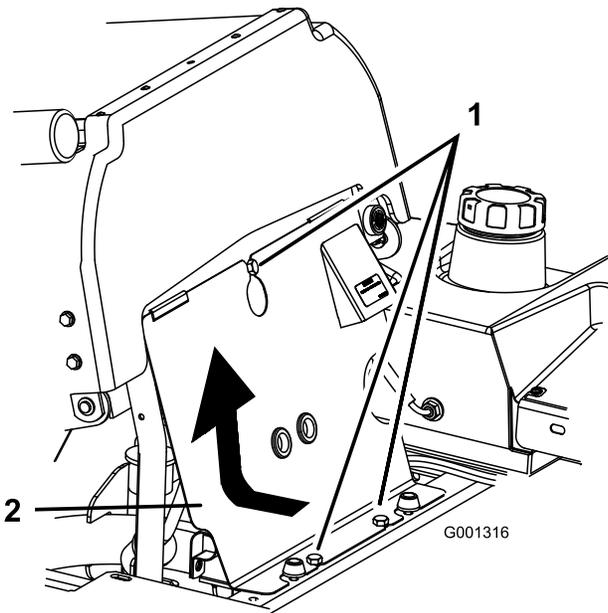

Figure 57
3. Tilt the seat forward, loosen the bolts and remove the front engine panel (Figure 57).